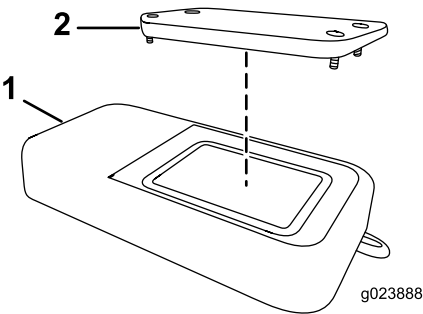

Figure 56
2. Remove the cover (Figure 56).